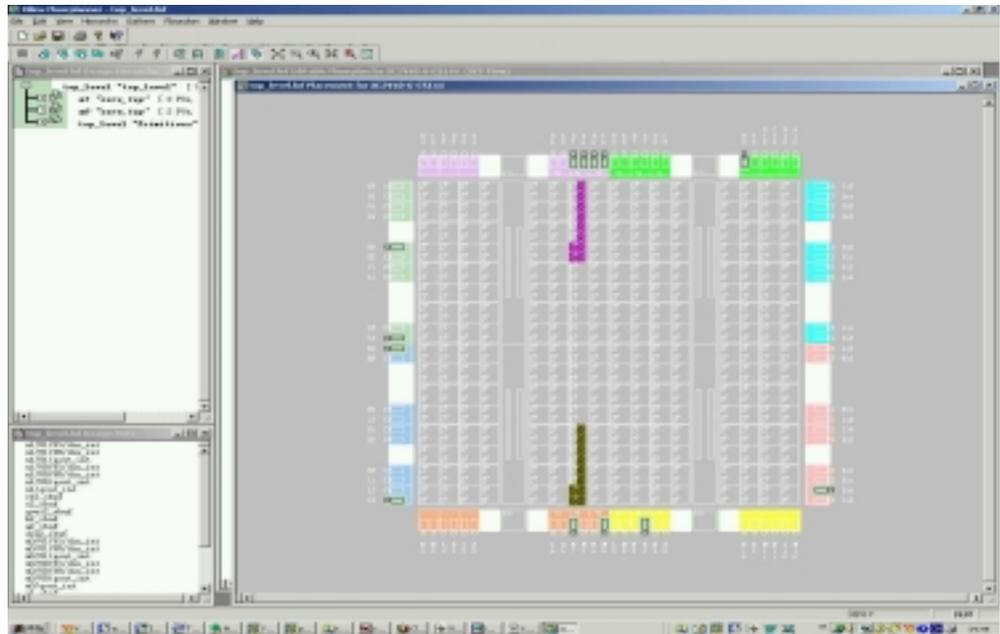

Figure 8: Implemented View of Workaround D
- Double click on *View/Edit Placed Design (Floorplanner)* to verify the correct design implementation (Figure 8).